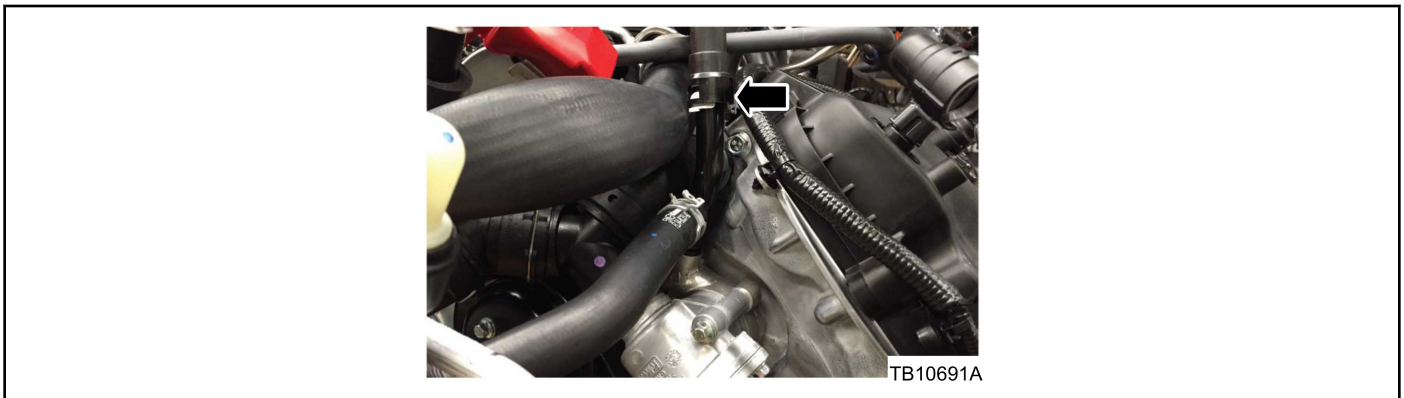

Figure 1 - Article 16-0019
2. Is the heater outlet hose disconnected from or leaking at the heater outlet tube on the coolant pump? (Figure 1)